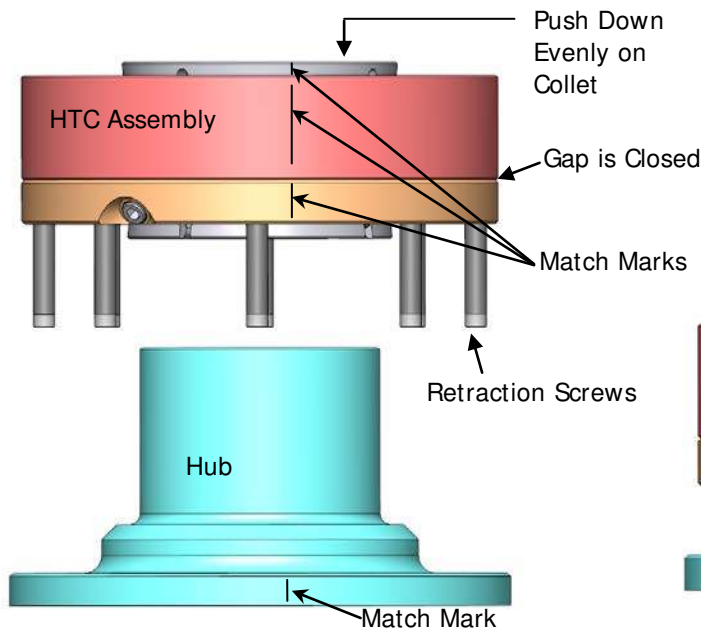
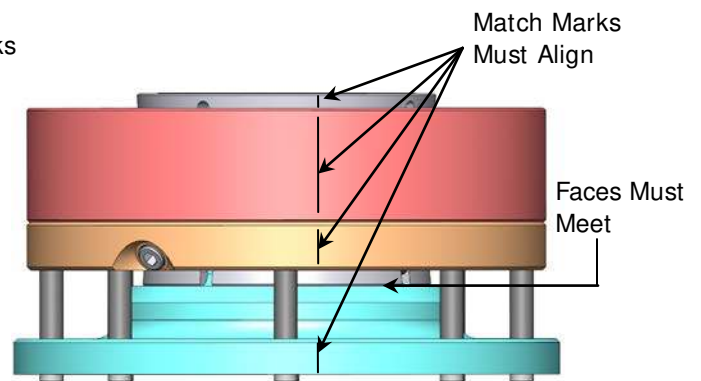

Figure 3a
Figure 3b
3.3.1 Remove the vent plugs (see Figure 1a). Tighten the retraction screws to 2-5 ft-lbs. Be sure the gap is closed (see Figure 3a).
3.3.2 Put the hub face down on a table. Align the match marks on the collet, Hub, and HTC to as shown in Figure 3a to ensure proper balance. Slide the HTC onto it until stop as shown in Figure 3b. Be sure to slide the HTC onto the hub evenly as there may be a slight interference fit. Always push on the COLLET, not on any other component of the HTC when sliding the HTC on hub.
3.3.4 Verify that the match marks are properly aligned as in Figure 3b.
3.3.6 Again verify the match marks are aligned as in Figure 3b.